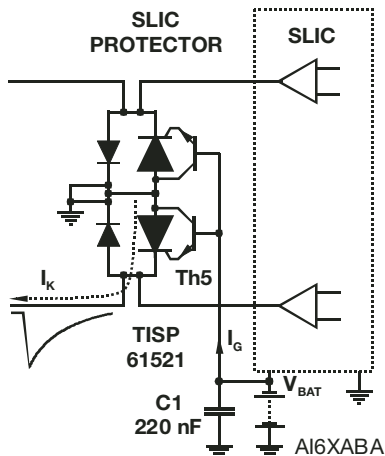
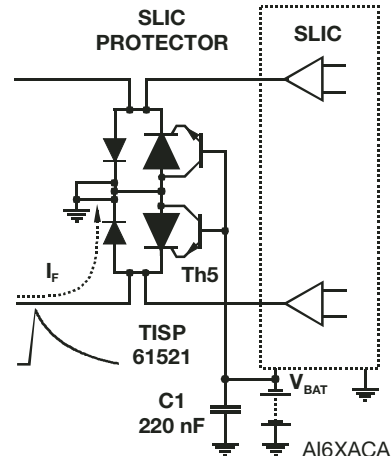
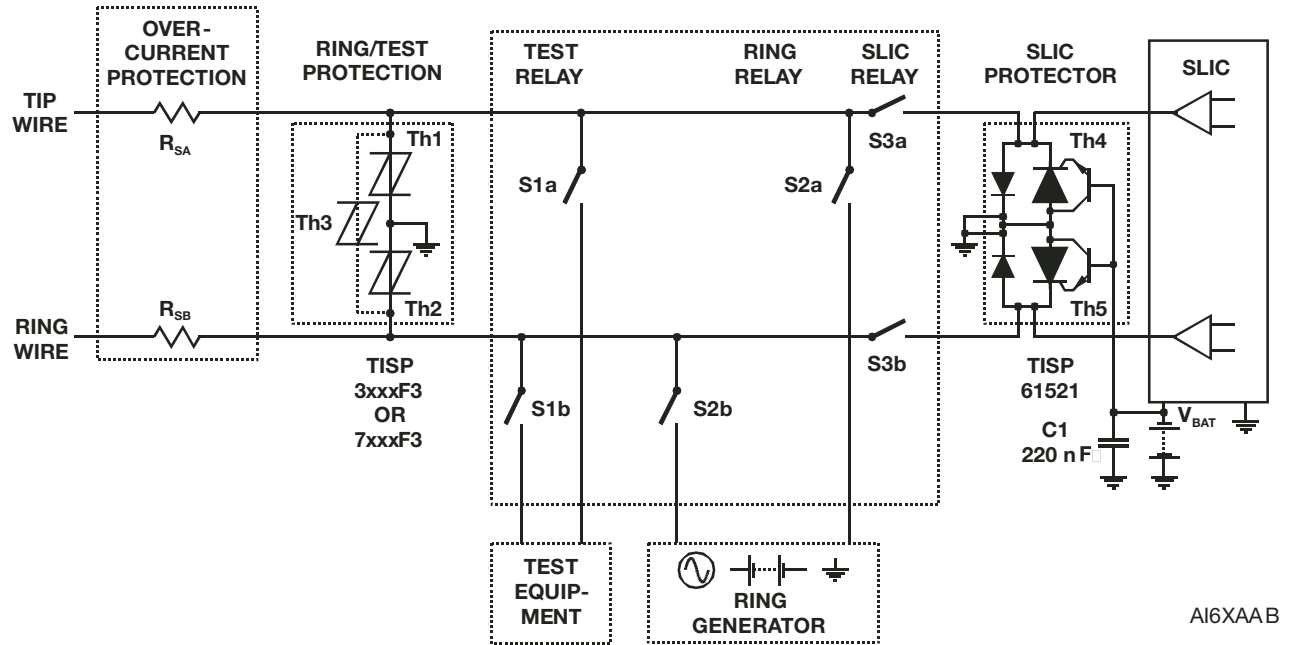

Figure 3. Negative Overvoltage Condition
Figure 4. Positive Overvoltage Condition
Figure 6. Typical Application Circuit
SLICs have become more sophisticated. To minimize power consumption, some designs automatically adjust the driver supply voltage to a value that is just sufficient to drive the required line current. For short lines, the supply voltage would be set low, but for long lines, a higher supply voltage would be generated to drive sufficient line current. The optimum protection for this type of SLIC would be given by a protection voltage which tracks the SLIC supply voltage. This can be achieved by connecting the protection thyristor gate to the SLIC V_{BATH} supply, Figure 3. This gated (programmable) protection arrangement minimizes the voltage stress on the SLIC, no matter what value of supply voltage.
Figure 3 and Figure 4 show how the TISP61521 limits negative and positive overvoltages. Positive overvoltages (Figure 4) are clipped by the antiparallel diode of Th5 and the resulting current is diverted to ground. Negative overvoltages (Figure 3) are initially clipped close to the SLIC negative supply rail value (V_{BATH}). If sufficient current is available from the overvoltage, then Th5 will switch into a low voltage on-state condition. As the overvoltage subsides, the high holding current of Th5 prevents d.c. latchup. The protection voltage will be the sum of the gate supply (V_{BATH}) and the peak gate-cathode voltage ($V_{GK(BO)}$). The protection voltage will be increased if there is a long connection between the gate decoupling capacitor, C1, and the gate terminal. During the initial rise of a fast impulse, the gate current (I_G) is the same as the cathode current (I_K). Rates of $70 \text{ A}/\mu\text{s}$ can cause inductive voltages of 0.7 V in 2.5 cm of printed wiring track. To minimize this inductive voltage increase of protection voltage, the length of the capacitor to gate terminal tracking should be minimized. Inductive voltages in the protector cathode wiring will also increase the protection voltage. These voltages can be minimized by routing the SLIC connection through the protector as shown in Figure 6.
Figure 6 shows a typical TISP61521 SLIC card protection circuit. The incoming line conductors, Ring (R) and Tip (T), connect to the relay matrix via the series overcurrent protection. Fusible resistors, fuses and positive temperature coefficient (PTC) resistors can be used for overcurrent protection. Resistors will reduce the prospective current from the surge generator for both the TISP61521 and the ring/test protector. The TISP7xxxF3 protector has the same protection voltage for any terminal pair. This protector is used when the ring generator configuration may be ground or battery-backed. For dedicated ground-backed ringing generators, the TISP3xxxF3 gives better protection as its inter-conductor protection voltage is twice the conductor to ground value.